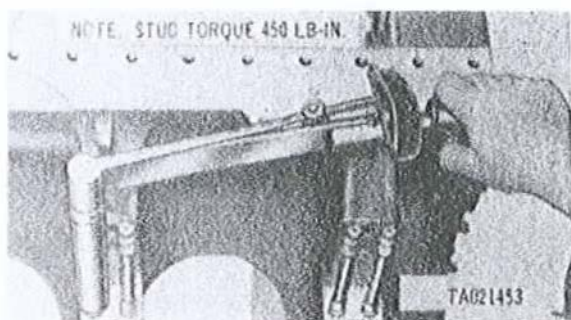

Figure 3-152. Checking torque of main bearing cap studs.
(2) Check main bearing cap stud torque using a torque wrench as shown in figure 3-152. Torque on studs must be 450 pound-inches. Studs that do not tighten to specified torque must be removed for further inspection. Refer to table 3-2 when replacing studs.